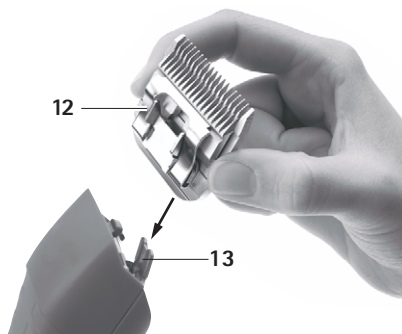

Fig. 2
- Install blade 12 on open knife hinge 13, see Fig. 2.
- Press blade 12 gently in the direction of the clipping machine FAV5 CL/FORTIS, see Fig. 2. The blade 12 engages with an audible click.